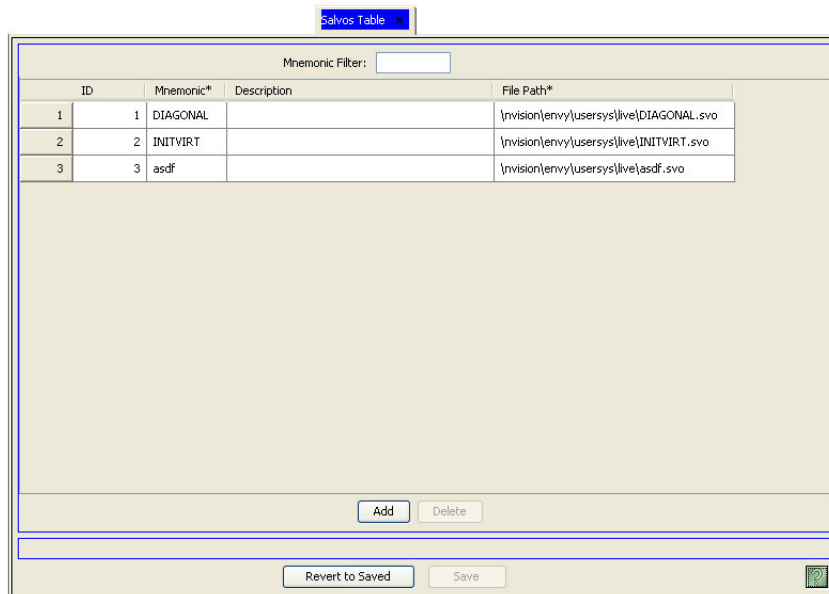

Figure 15-10. Salvos Table
- 2 From the Navigation area, select the ‘Views’ pane and then ‘Salvos’. The ‘Salvos’ table appears, as shown in Figure 15-10.
- 5 In the 'Salvos' table, click in the 'Description' field to activate it and enter a new description. (See Figure 15-10.)